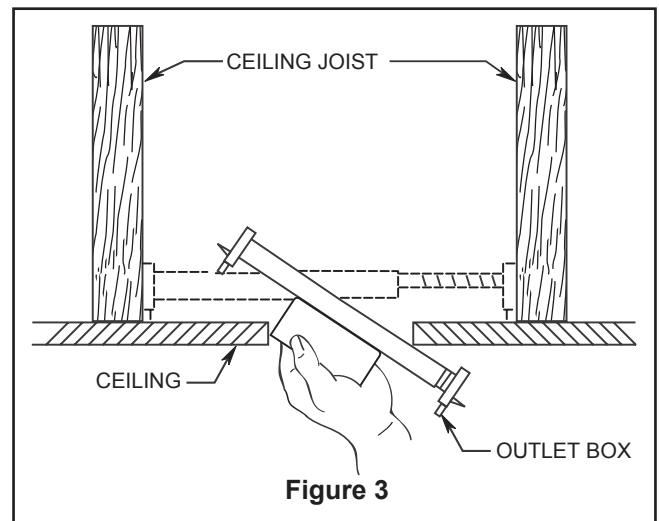
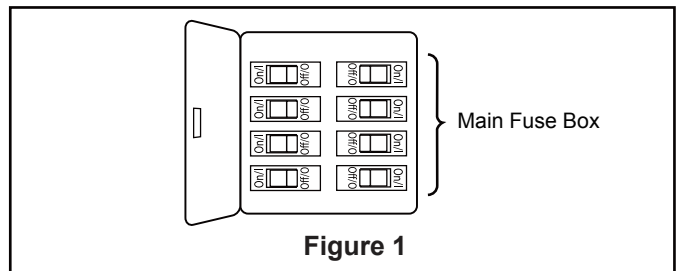

Figure 3
Figure 1
Your new ceiling fan will require a grounded electrical supply line of 120 volts AC, 60 HZ, 15 Amp Circuit. Electrical code requires use of a fan-rated outlet box to support the extra weight and motion associated with a ceiling fan. A fan-rated box will be labeled as such and typically supports up to a 70lb ceiling fan. Fan-Rated Outlet Boxes vary in ratings and design. Ensure the ratings of your ceiling fan outlet box meet the requirements for the ceiling fan being installed. Figure 1, Figure 2 and Figure 3 depicts different structural configurations that may be used for mounting the outlet box.
Low profile box (Figure 1)
Deep box with brace (Figure 3)
To avoid possible electrical shock, be sure electricity is turned off at the main fuse box before hanging and wiring. (Figure 1)
1. Securely attach the outlet box acceptable for ceiling fan support into the building structure. Outlet box is not supplied with the fan. (Figure 3)
NOTE: Supply wires and fan wires omitted for clarity **Figure 3**
3. Assemble the steel cap to the motor assembly by twisting in a clockwise direction. (Figure 3)